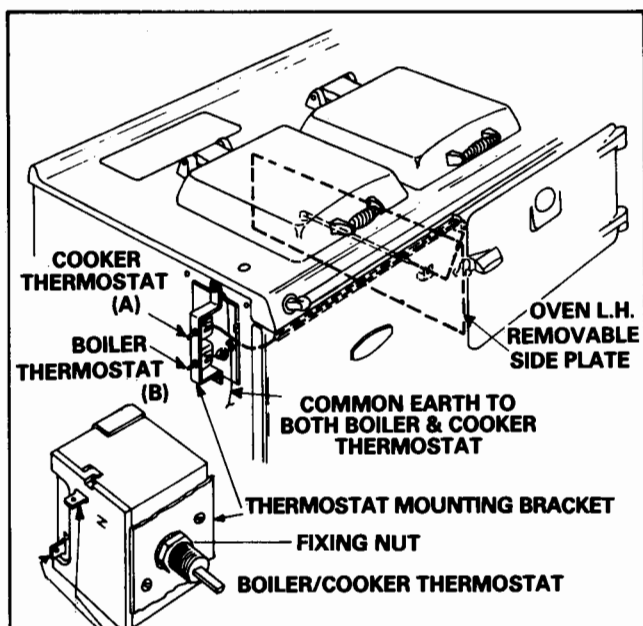

Fig. 8 THERMOSTAT TERMINAL
- e. Open top oven door and using a screwdriver, remove two fixing screws securing inner L.H. oven side to expose the located thermostat phial – See Fig. 8.
5. To Remove Cooker Thermostat – See Fig. 8
6. To Remove Boiler Thermostat – See Fig. 8